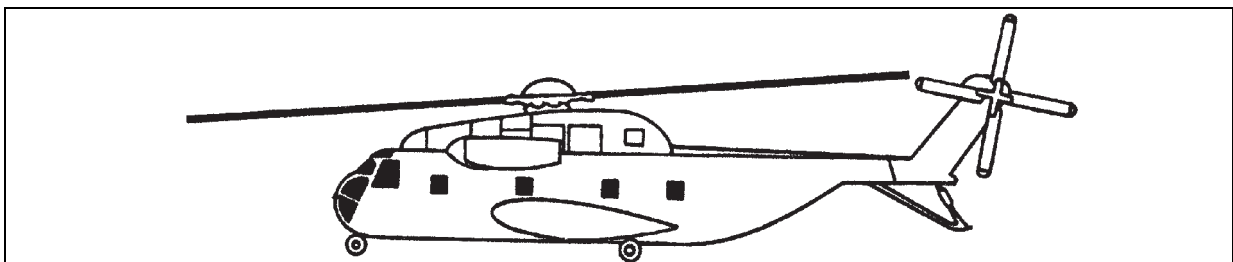

Figure 2-16. H-53 A/D Stallion
- H-53.** The H-53 Stallion (figure 2-16) is a twin engine, single main rotor helicopter produced by Sikorsky Aircraft. Its primary mission is to either aerial deliver supplies and equipment or conduct airborne mine countermeasures (mine sweeping).